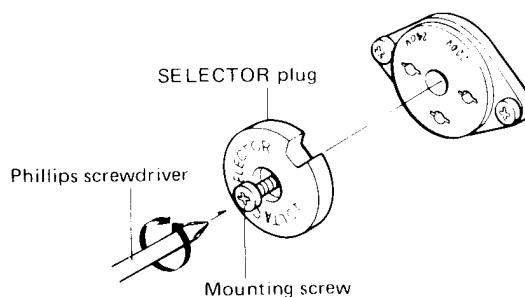

Fig. 7
CT-F850 are designed to accept different line voltages, according to the country in which they are to be used, although the operation of the various models is the same in every respect. Fig. 7 shows the model designed to operate at any of two pre-selected voltages (220V, 240V).
3. Re-install the plug with its cutaway section exposing the correct voltage indication as illustrated (Fig. 7).